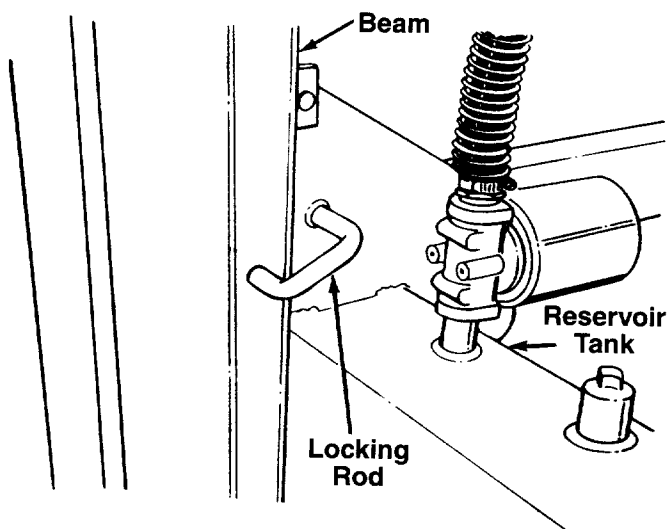

FIGURE 11.
1. Place log splitter on a firm, level surface. For vertical operation, pull the locking rod out and pivot it down to release the beam. Place the beam in the vertical position. Lock the beam in the vertical position, by pulling out on the locking rod and pivoting it to the left. See figure 11.